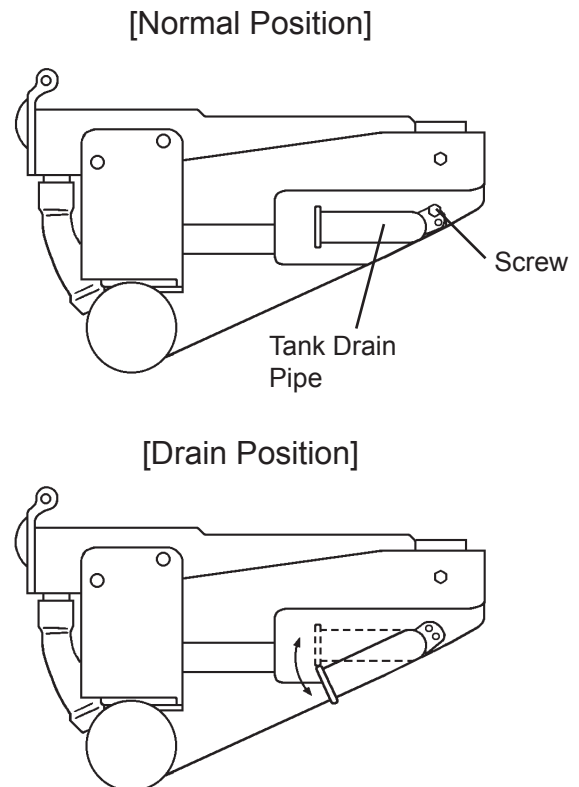

Fig. 1
- 4) Move the Tank Drain Pipe to the drain position. See Fig. 1.